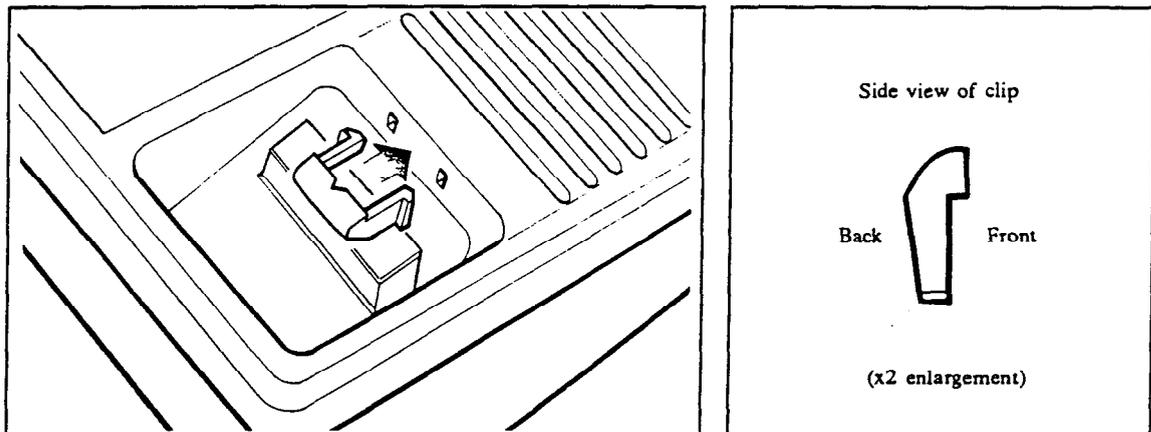

Figure 6-8 Handset Clip Installation
- Step 3. Before hanging the Panther telephone set on the screws, install a handset clip. This clip keeps the handset in the cradle in wall-mount applications (do not use handset clips on desk-top telephones). To install the clip, position it so that the flat side is facing you and the angled side is toward the set. Insert the clip. To remove, use a paper clip or similar tool. Refer to Figure 6-8.